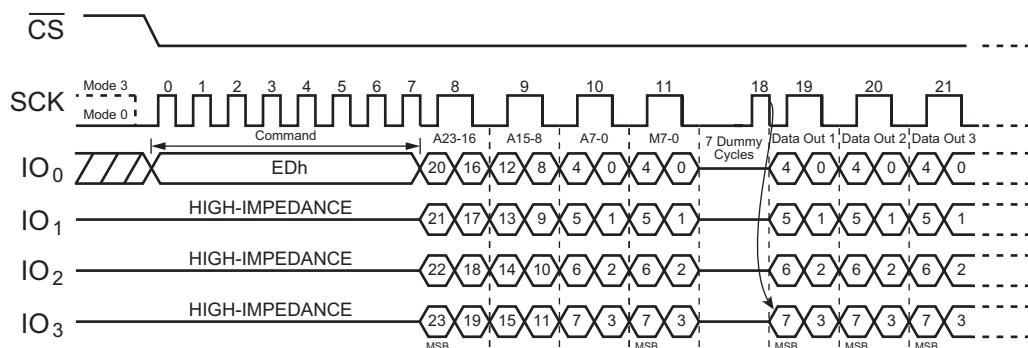
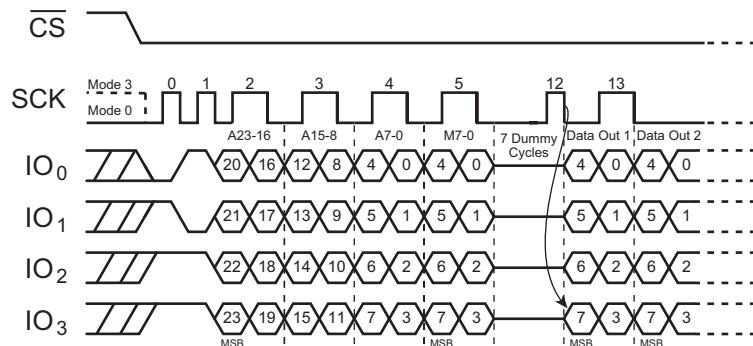
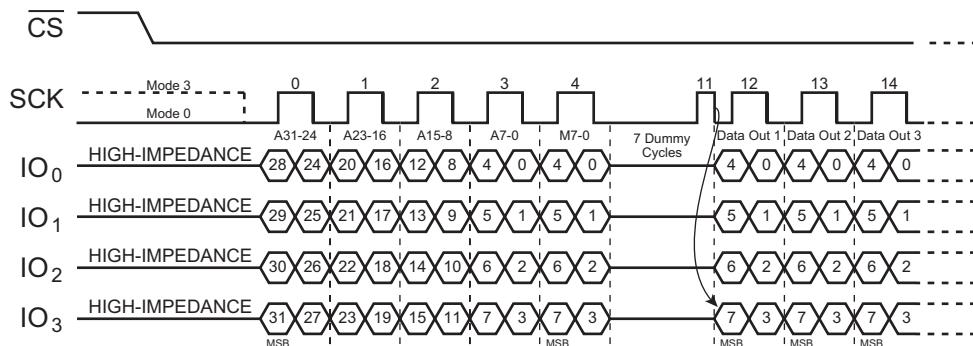

Figure 51. DTR Fast Read Quad I/O (SPI Mode, Three-Byte Address Mode; Initial command or previous (M5-4 ≠ (1,0)))
Figure 55. DTR Fast Read Quad I/O (QPI Mode, Three-Byte Address Mode; Initial command or previous (M5-4≠(1,0)))
Figure 58. DTR Fast Read Quad I/O (QPI Mode, Four-Byte Address Mode; Initial command or previous (M5-4=(1,0)))
The DTR Fast Read Quad I/O (EDh) command is similar to the Fast Read Dual I/O (BBh) command, except that address and data bits are input and output through four pins: IO0, IO1, IO2, and IO3; also, four Dummy clocks are required in SPI mode before the data output, as shown in Figure 51 to Figure 58. The Quad Enable bit (QE) of Status Register must be set to enable.
The DTR Fast Read Quad I/O command is also supported in QPI mode, as shown in Figure 55 to Figure 58. In QPI mode, the Continuous Read Mode can further reduce command overhead by setting the Continuous Read Mode bits (M7-0) after the input Address bits (A23/31-0). See the description on previous pages. If the Continuous Read Mode bits (M5-4) = (1,0), the next Fast Read Quad I/O command (after CS is raised and then lowered) does not require the EDh opcode. If the Continuous Read Mode bits M5-4 do not equal (1,0), the next command requires the first EDh opcode, thus returning to normal operation. A Continuous Read Mode Reset command can also be used to reset (M5-4) before issuing normal command.